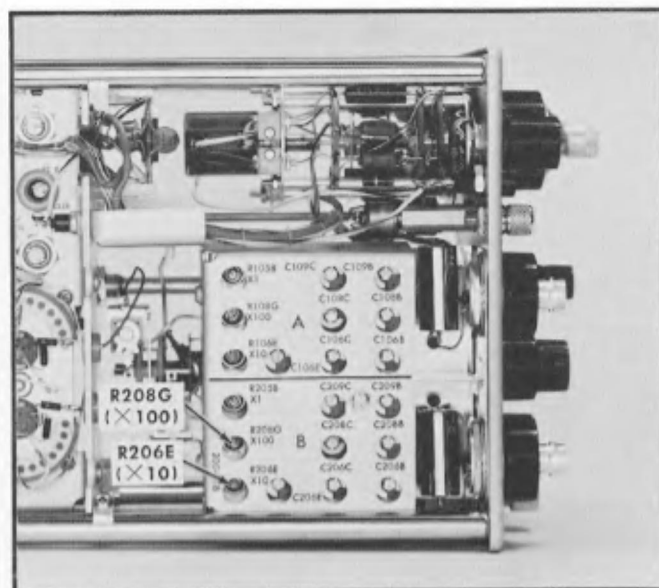

Fig. 5-38. Steps 29j and 30e adjustment locations.
j. Adjust R206E (see Fig. 5-38) so the trace is returned to graticule center.
e. Adjust R208G (see Fig. 5-38) to center the trace.